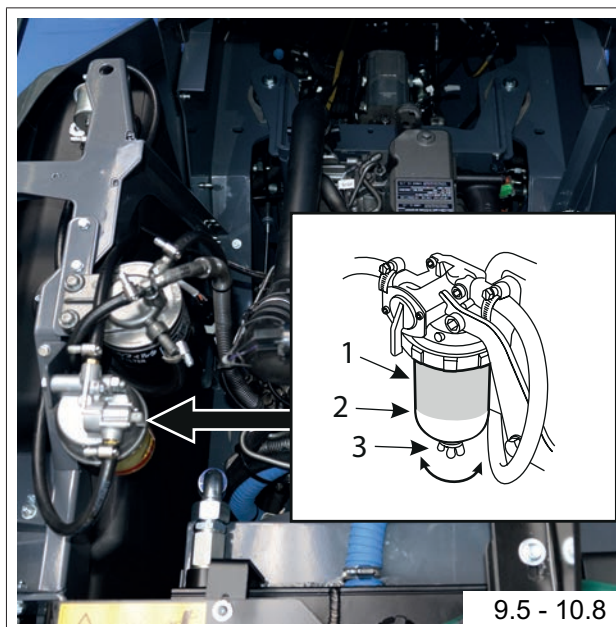
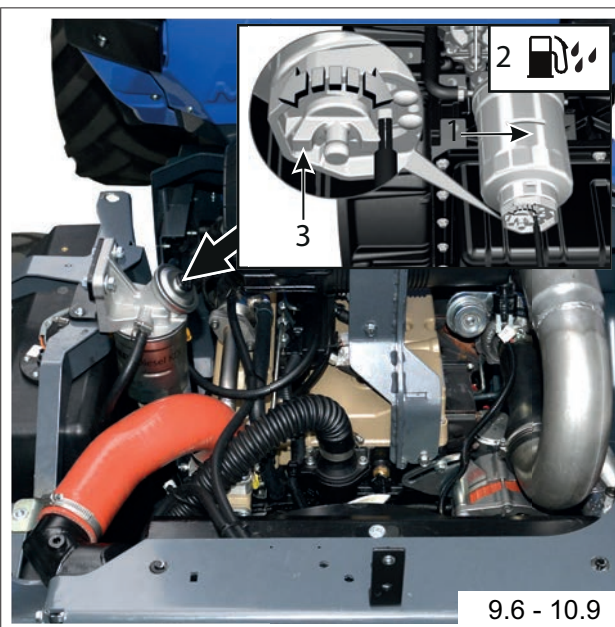

FIG. 59
FIG. 60
- 4) **Yanmar engine - Model 9.5 - 10.8** - Inspect the fuel/water separator (FIG. 59 - Ref. 1) for any water. Any water will be visible as a clear layer (FIG. 59 - Ref. 2) at the bottom of the filter bowl. In cold weather any water in the fuel may freeze and block the fuel system.
Kholer engine - Model 9.6 - 10.9 - When the separator filter light (FIG. 60 - Ref. 2) in the multifunction display is ON, water is present in the separator filter. In cold weather any water in the fuel may freeze and block the fuel system.
- Open the drain valve (FIG. 59 and FIG. 60 - Ref. 3) at the bottom of the filter bowl;